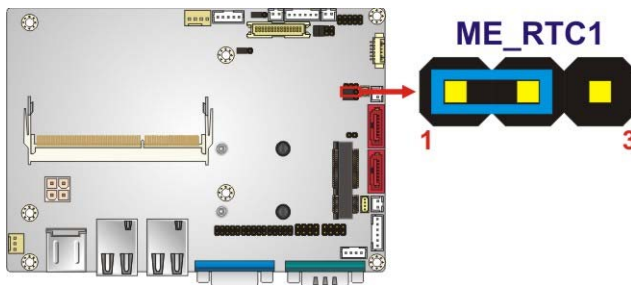

Figure 4-4: Clear ME RTC Registers Jumper Location
- Jumper Location:** See Figure 4-4